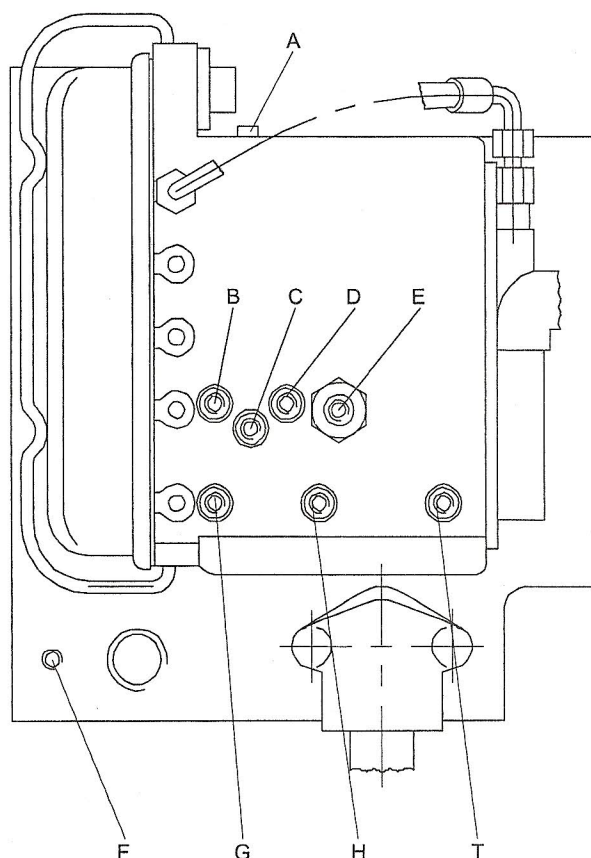

Fig. 05-19
2. Measuring Method (See Fig. 05-19)